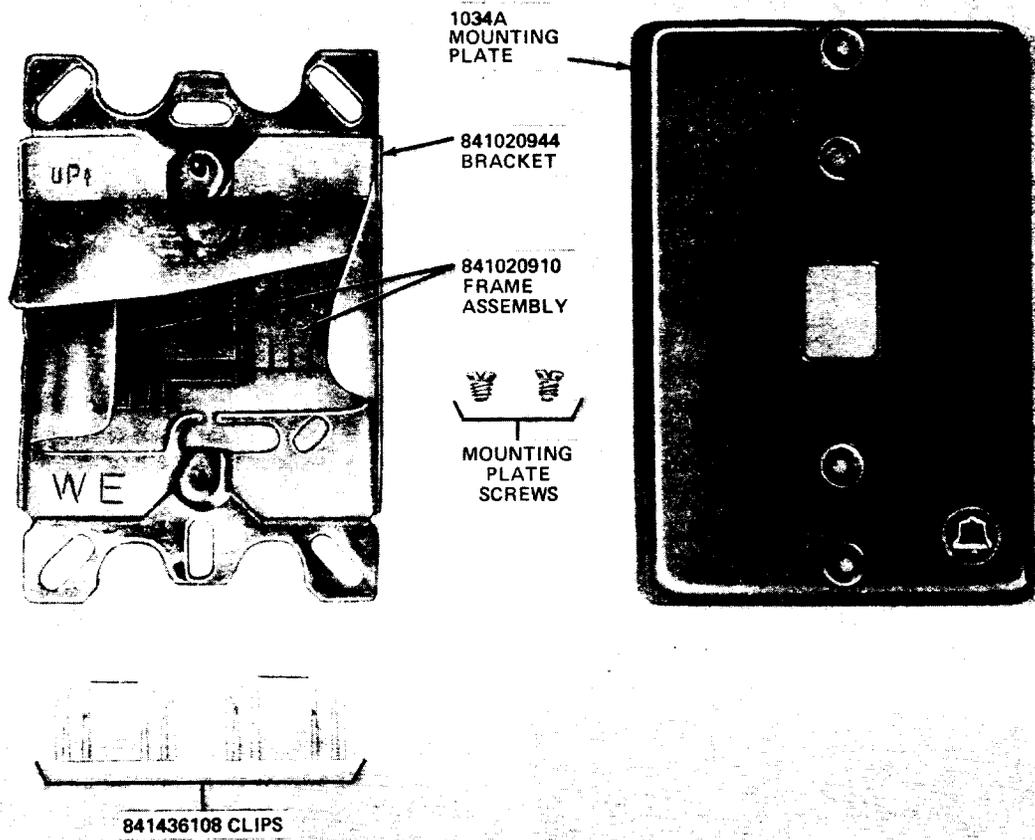

Fig. 19—630B Connecting Block
**3.16 630B Connecting Block:** Mount the 630B connecting block (Fig. 19) on a standard electrical outlet box using 841020944 bracket or on a 63-type bracket, or directly on a wall. In all cases, the block should lie flat against the wall. When installing on an underflush outlet box or plaster ring, the connecting block bracket should be tightened just enough so the assembly is tight on the wall once mounting plate is attached and tightened down. Use the two 3/16-inch No. 6 faceplate screws when mounting the block directly to a wall. Use two 5/16-inch No. 6 screws when mounting on an electrical box or 63B bracket. A 919C backboard may be installed where wall imperfection exist. Use fastener package provided with block. Depending on mounting arrangement, select proper fasteners from Table B and
install the block using holes provided in bracket (Fig. 19). Refer to paragraph 4.01 for connections.